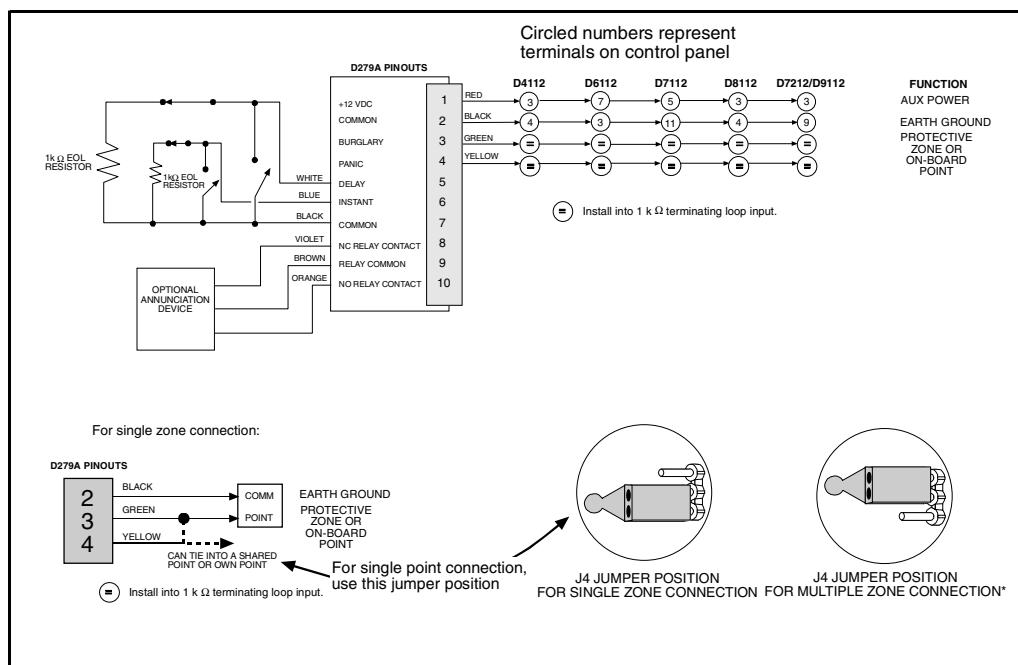

Figure 2: Wiring the D279A
2. Connect the D279A to the panel and protective zones or points as shown in Figure 2.
Simultaneously pressing both asterisk buttons shorts the Panic output and initiates an alarm. Panic outputs from several D279A Independent Zone Controls can be connected to the same zone or point. If you do this, place the J4 jumper on the bottom two pins (see Figure 2). The Panic output can be connected to the same zone or point as the burglary alarm output, but if you do this, the Central Station will not be able to distinguish between panic and burglary alarms. It is recommended that you NOT wire panic and burglary alarm outputs together to zones or points programmed for opening and closing reports.